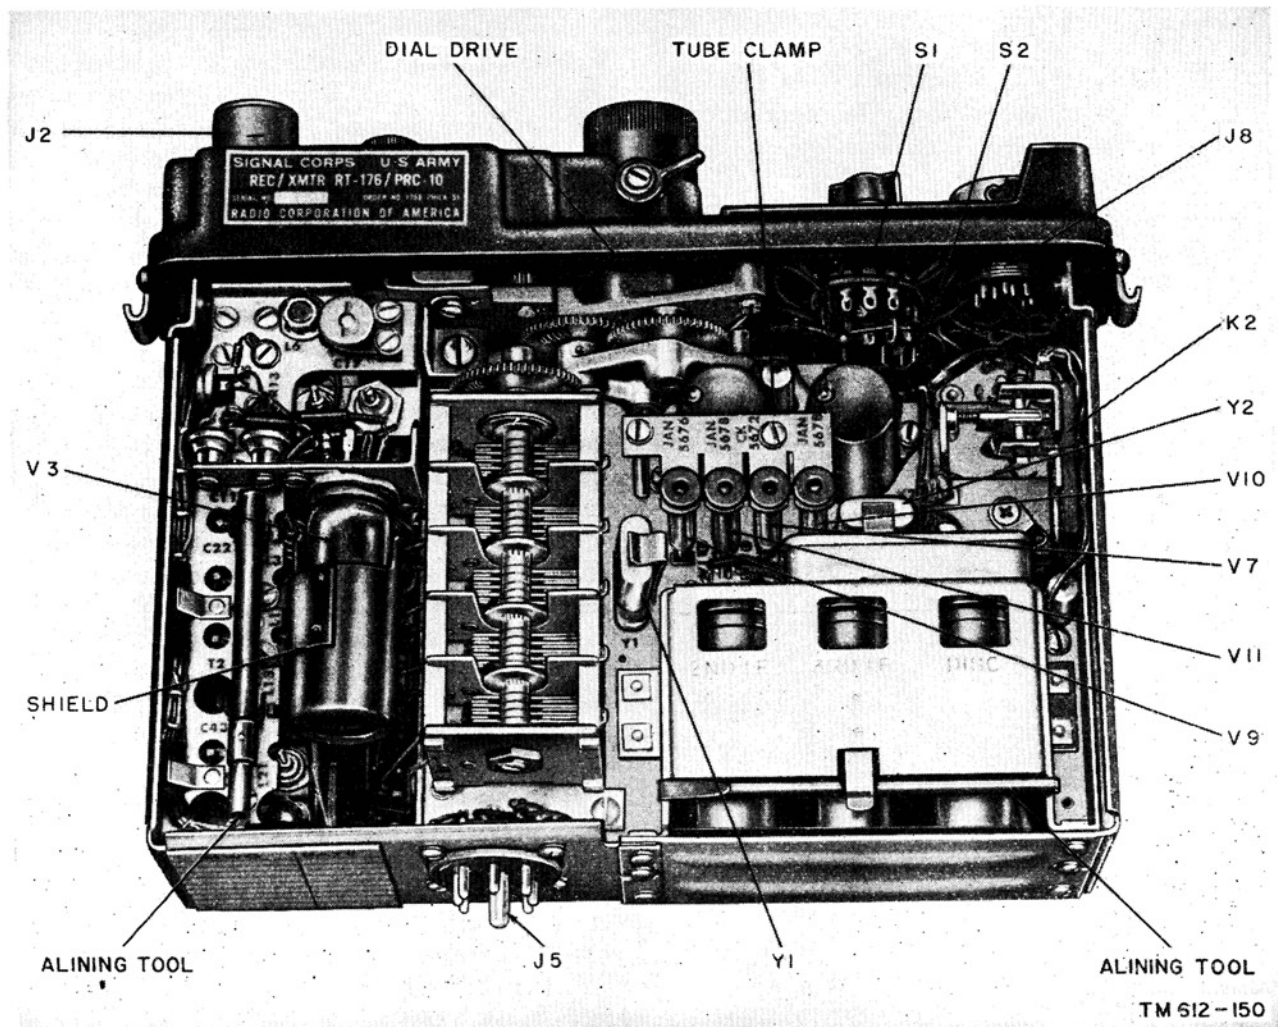

Figure 6. Receiver-transmitter chassis, bottom view.
c. **PANEL.** The cast-aluminum panel is secured to the chassis by six screws. The controls are shown in figure 14. The dial-drive mechanism (fig. 6) is an antibacklash gear train, with the antenna tuning components mounted on and operated by the mechanism. The dial drum with its frequency markings and the pointer are visible through a lens on the panel.
d. **CHASSIS.** The chassis (figs. 6 and 7) is a spot-welded sheet-aluminum assembly on which are mounted all components of the unit except
on the left side of the box. These boxes house the circuits for the transmitter oscillator, the first r-f amplifier, the second r-f amplifier, the mixer, the receiver oscillator, and the afc driver. The names are printed on the tops of the respective boxes. The tube which is plugged into the socket on the transmitter oscillator box is *not* the transmitter oscillator tube but is the modulator tube, V2. Each of the other five boxes has the tube which corresponds to the name on the box plugged into it. The boxes contain coils, capacitors, and resistors which are shown included within dotted-line boxes on the main schematic diagrams (figs. 37, 38, and 39). Refer to TM 11-4065 (figs. 37, 38, and 39) for inside views of these boxes. Each box has a terminal board from which voltage and resistance measurements may be made. These terminal boards are just below tube V3 (fig. 6) and are accessible when that tube is removed from its socket. Voltages and resistances at these terminals are indicated in figure 27 of TM 11-4065. The reference symbols for these boxes as indicated
- (2) *I-f amplifier and discriminator circuits.* The five IF Amplifier (AM-427/U) sub-assemblies are identical. Each contains a subminiature tube, coils, resistors, and capacitors hermetically sealed inside a 3/4-inch diameter by 2-inch can. These cans have seven-prong plugs similar to miniature tube bases and plug into sockets located on the i-f shelf at the left rear of the chassis. The discriminator can (TF-132/U) is similar to the i-f cans in outward appearance. It contains coils, resistors, capacitors, and two germanium crystals.
- (3) *Miscellaneous components.* The following items on the chassis of the receiver-transmitter may be located on figures 6 and 7: